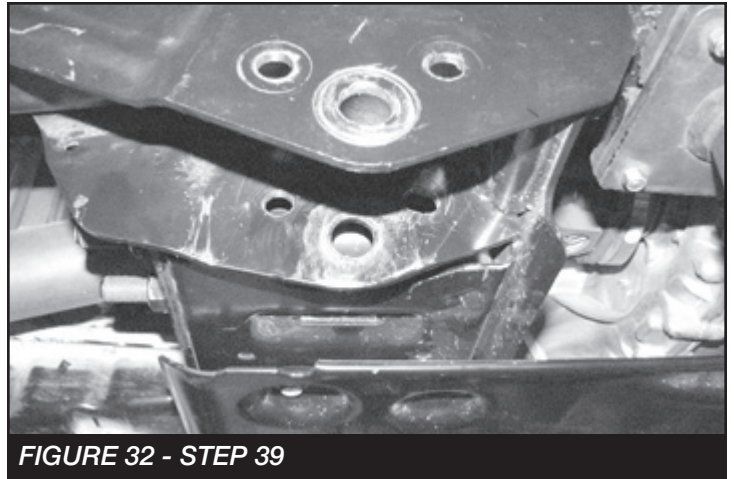

FIGURE 32 - STEP 39
39. Remove the factory crossmember and skid plate that is mounted between the factory radius arm pockets. Retain Hardware. **SEE FIGURE 32**